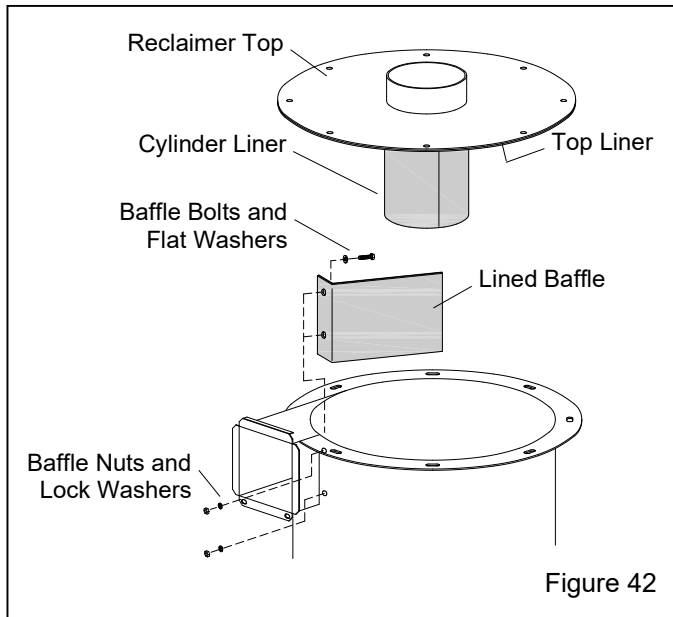

Figure 42
7.11.7 Remove the bolts and nuts, securing the reclaimer top, and then remove the top (and top liner and cylinder liner if the reclaimer is currently lined), as shown in Figure 42
7.11.10 Remove the nuts and washers located along the right side of the inlet and remove the lined baffle through the top of the reclaimer, as shown in Figure 42.